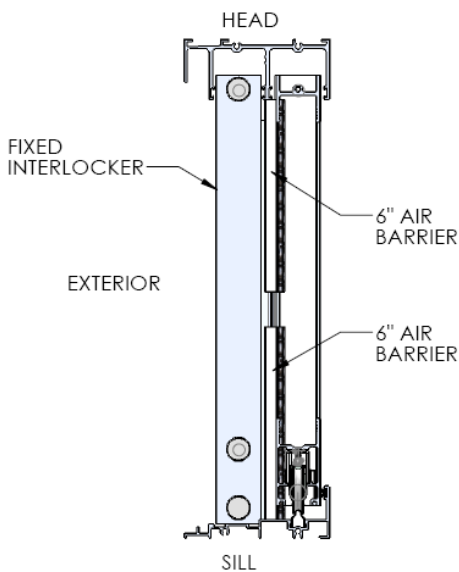

Figure 27:
1. Slide the air barriers (optional) in all fixed interlocks into position. At the head slide the air barrier up until it butts with the center mohair pocket, as shown in Figure 27. At the sill slide the air barrier down until it sits on the sill, as shown.